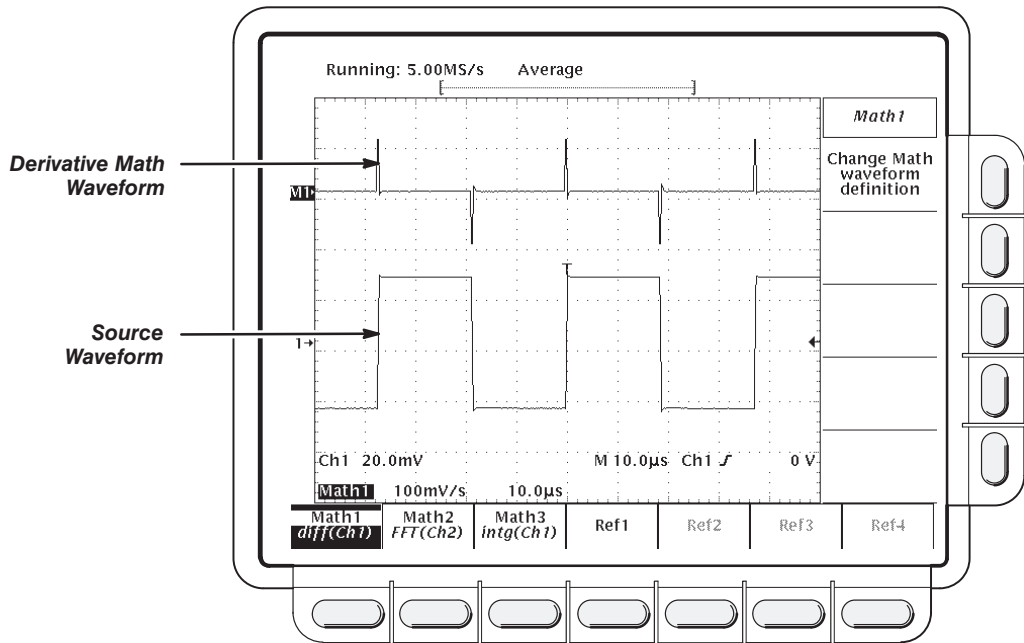

Figure 2-1: Derivative Math Waveform
- Expand the waveform horizontally on screen. (Select the source channel and increase the horizontal scale using the horizontal **SCALE** knob.) For instance, if you display the source waveform illustrated in Figure 2-1 on page 2-2 so its rising and falling edges are displayed over more horizontal divisions, the amplitude of the corresponding derivative pulse will decrease.